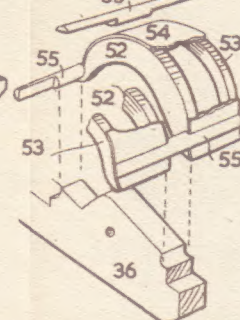

Fig. 10—Rear mudguards
the chassis girder (36) but this should not be done until the wheels and all their axles have been added. The mudguards can be made up in two pairs (see Fig. 10) from parts 52 to 55. Note the recessed portion in pieces 55 which form distance pieces between the framers (52).